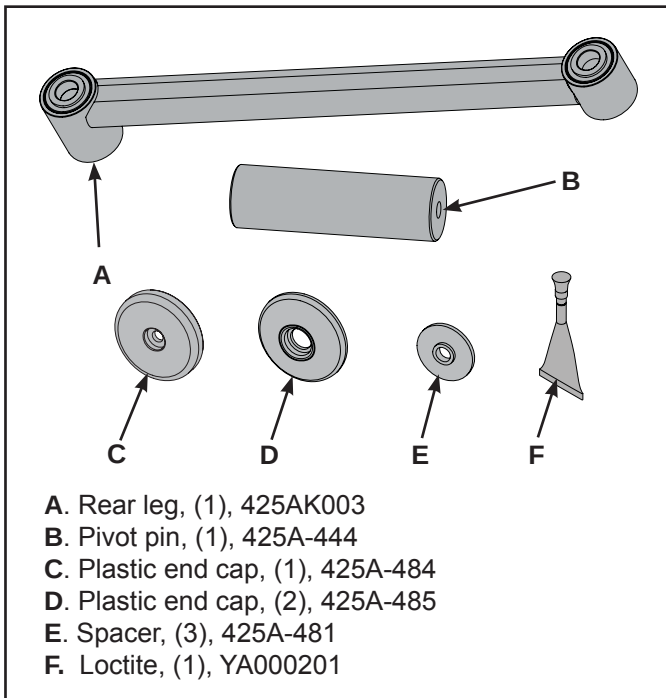

Figure 1
- 7/32" Allen wrench (2)
2. Verify kit contents. See Figure 1.